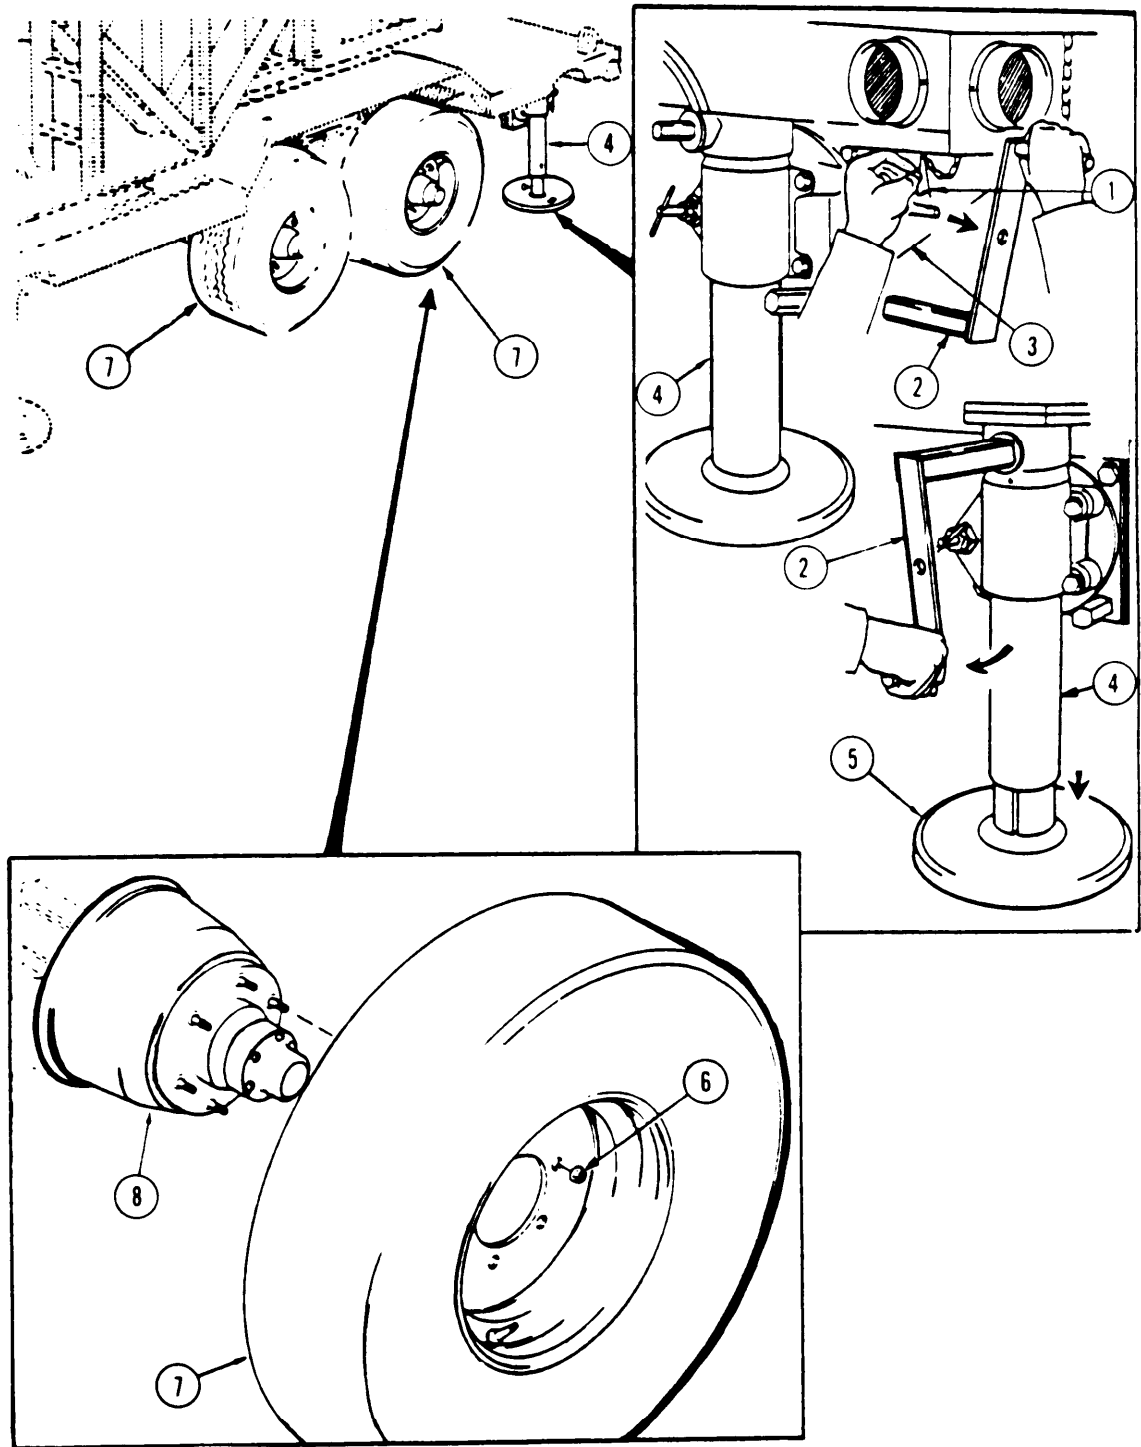
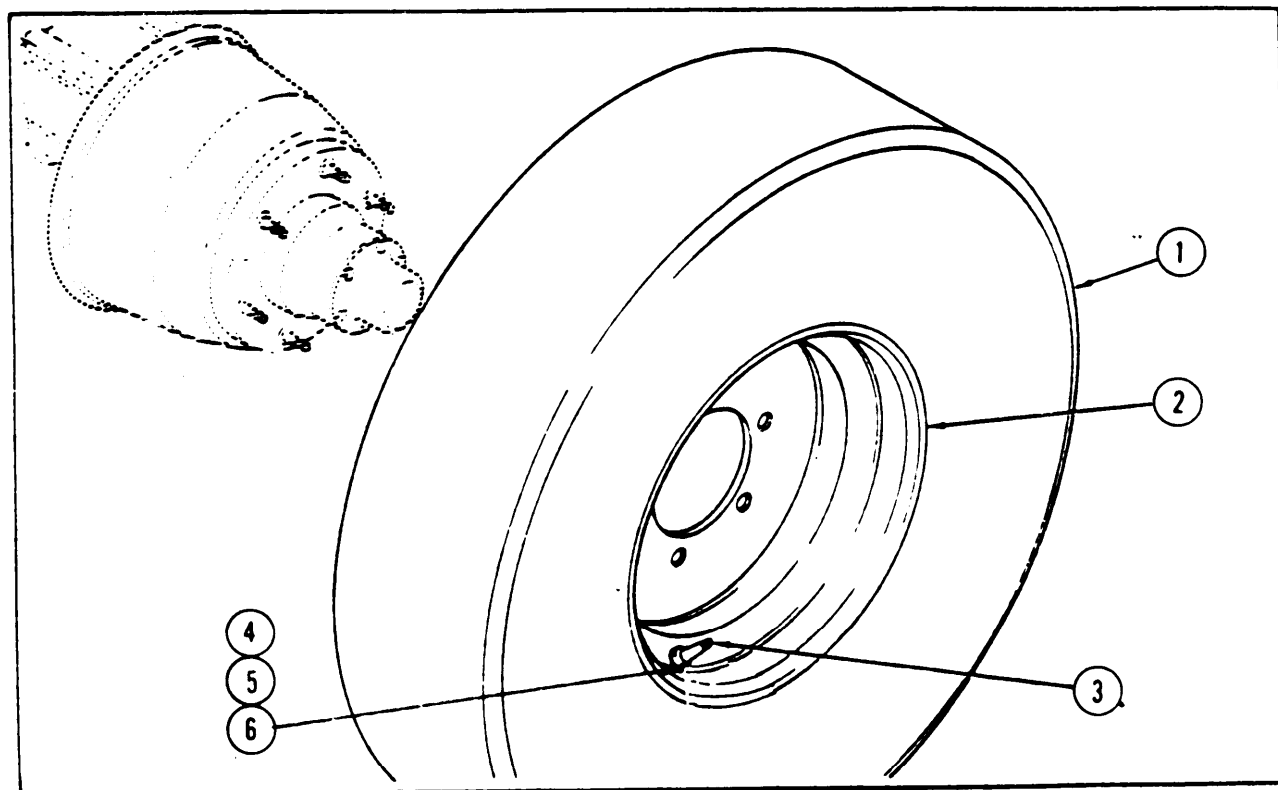

Figure 2-8. Trailer Wheel Assembly (ARMY)
Figure 2-9. Trailer Wheel (ARMY)
2-21. TRAILER WHEEL ASSEMBLY (Figure 2-8) (ARMY)
(7) Carefully remove tire and wheel assembly (7) from hub (8).
c. Disassembly. (Figure 2-9)
(1) Inspect tire for cuts, cracks, or uneven wear. Measure tread depth using tread gage at three equally spaced points on tire (should be more than 1/8 in.). Replace if damaged or badly worn. Repair tires as required.
(2) Inspect wheel for bends or cracks. Replace, if damaged.
(3) Inspect valve stem for cracks or loose or damaged valve. Replace valve stem or valve, if cracked or damaged.
e. Assembly. (Figure 2-9)
(1) Install new valve and valve spud valve (3) in wheel assembly (2), then install washers (6) and (5) and nut (4) over valve and valve spud valve (3).
(2) Using proper tire replacement tools, replace tire (1) on wheel assembly (2). Fill tire with proper amount of air, 75 psi (5.27 kg/cm²).
f. Installation. (Figure 2-8)
(1) Trailer must be in raised position.